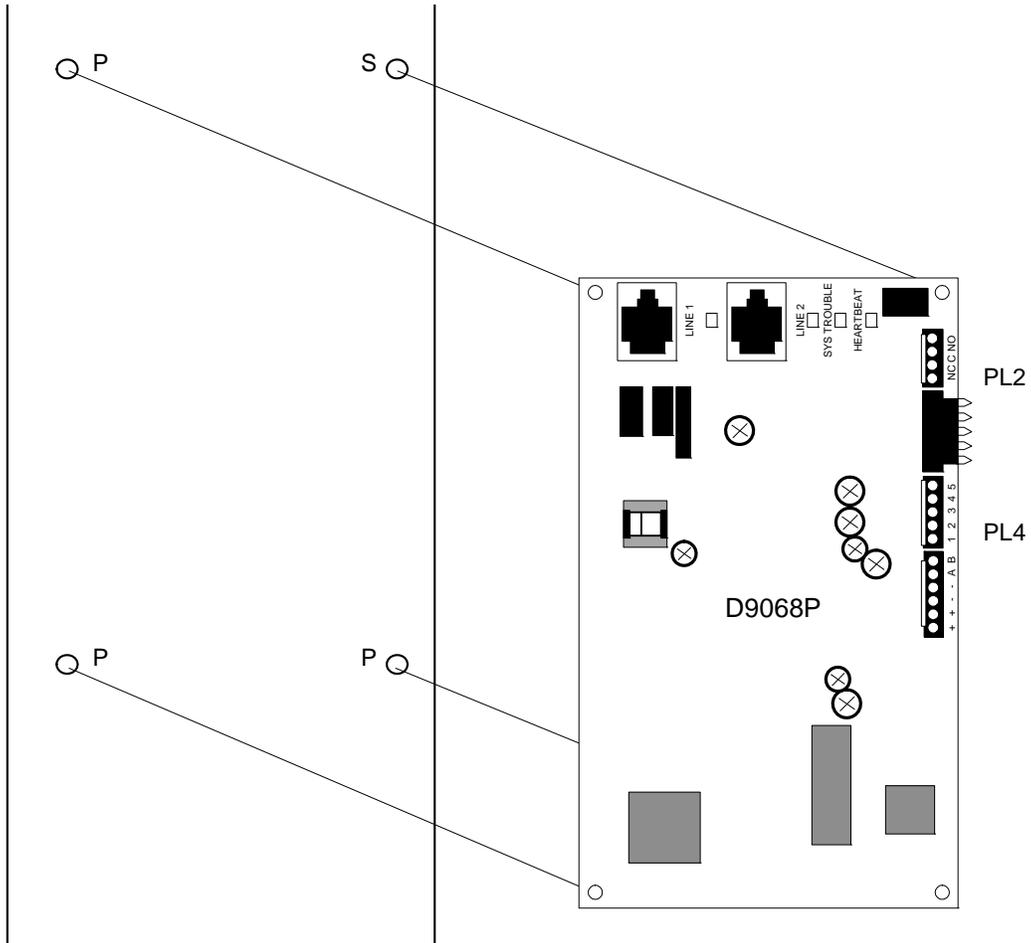

Figure 6 – D9068P Installation in /E or /V Enclosure
Located on the upper left sidewall of the /E and /V enclosure backbox are three (3) PC board push snap-on standoffs (P) and one (1) screw standoff (S). Push the D9068P DACT module onto the three (3) push snap-on standoffs. Utilizing the supplied Regular head screw, screw the D9068P DACT to the screw standoff (S), and tighten securely. See figure 6